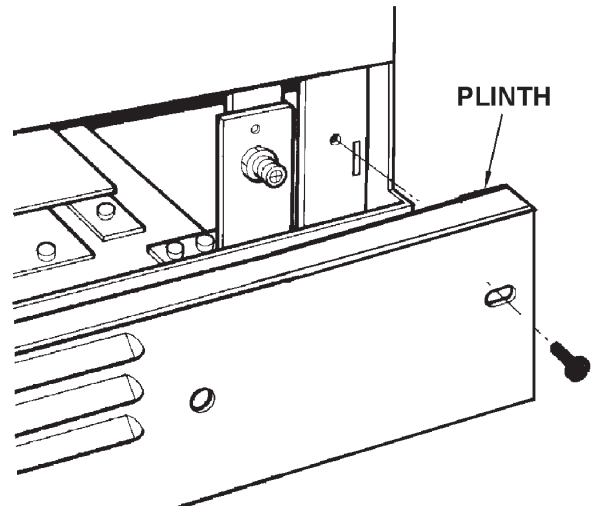

FIG. 14
4. Fit plinth assembly (See Fig. 14).